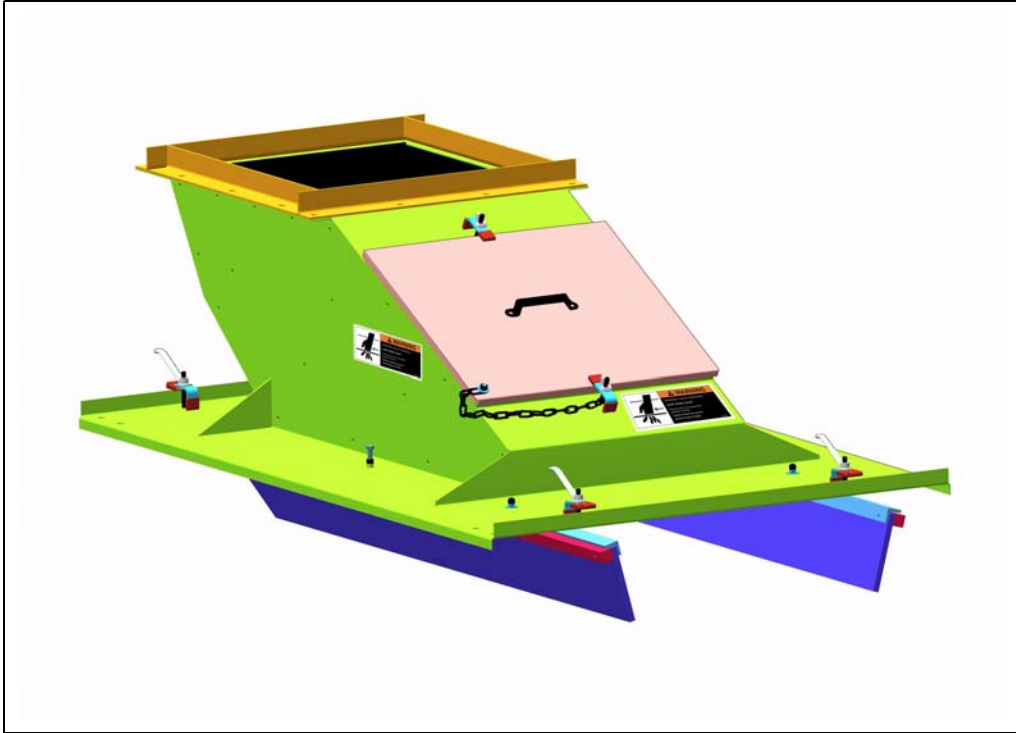

Figure 4K Swing-Up Skirt Loader
1. If the loader does not line up exactly with an intermediate cover, the intermediate covers will need to be cut to fit. If this is necessary, properly position loader and cut a section from the covers so they will fit between the cover channel bolted to next section and the loader flange. Weld cover back together to achieve required length. Repaint welded area to prevent rusting. (See Figure 4K.)